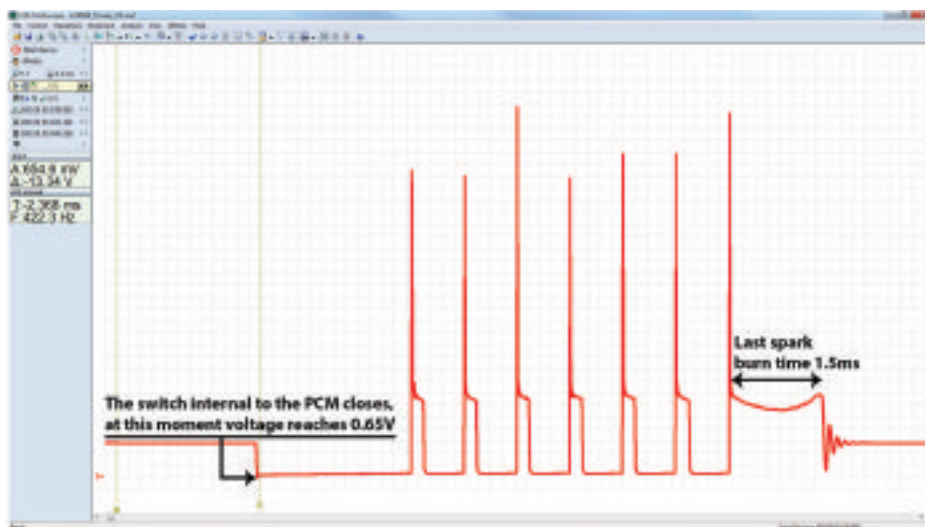

Figure 1: Primary waveform from cylinder No. 1.
**Figure 1** shows the waveform of the primary voltage from the coil in cylinder No. 1, where there are no discernible problems. Note that this is a “multispark” or “multistrike” ignition system. BMW engineering. There are seven sparks visible in the waveform.